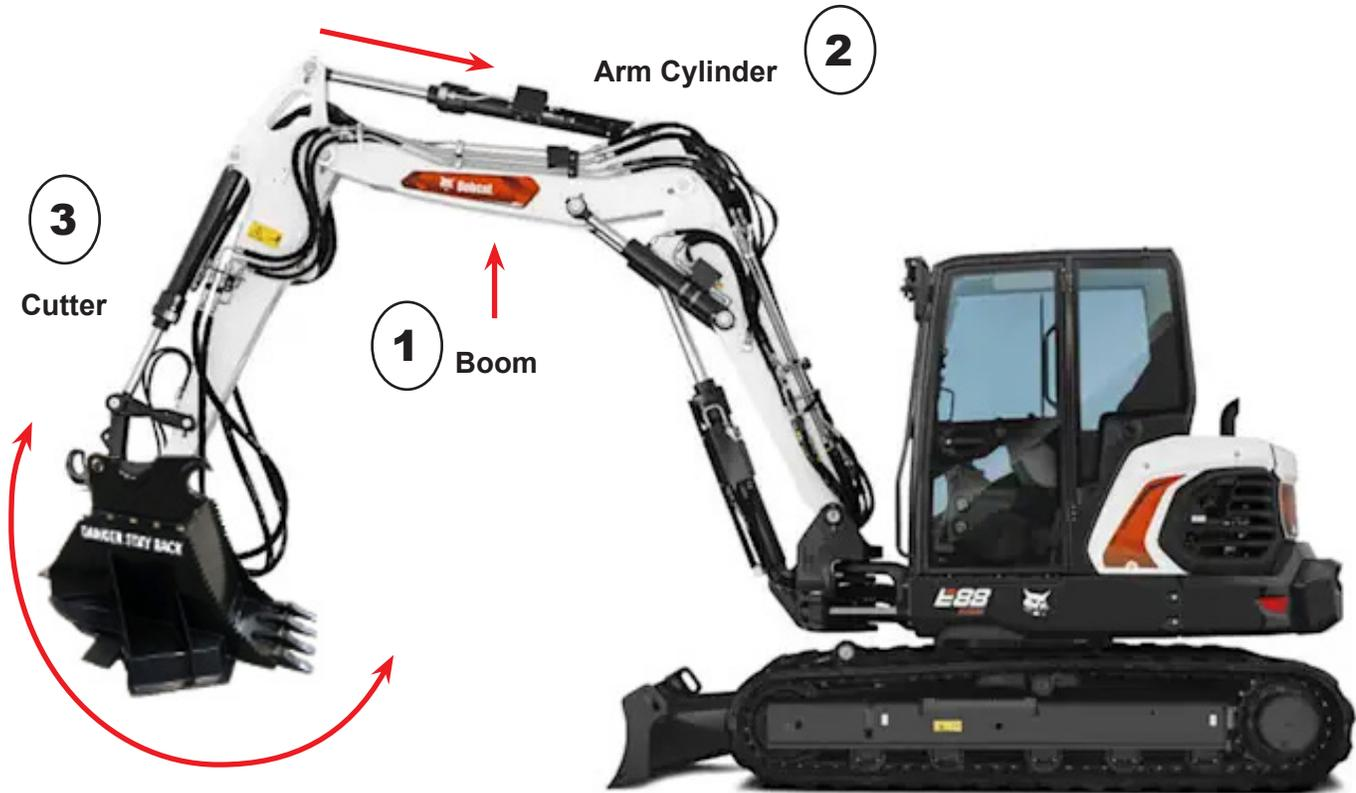

Figure 4.6A EXCAVATOR
3. With the excavator cutter attached to the machine, (Step 1) raise the boom enough so the (Step 2) arm can be extended. Then (Step 3) tilt the cutter either facing the operator or completely away from the cab for optimal positioning. **See Figure 4.6A**
4. Position the cutter deck in a vertical position to gain access to the blade holder assembly. Rest cutter on the ground with the blade holder in a vertical position for access. **See See Figure 4.6A**